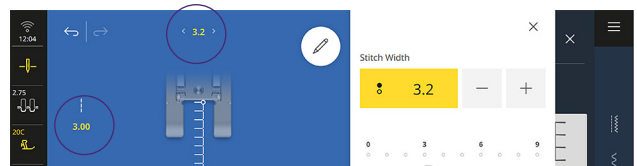

Fig. 7
2. Increase the stitch width to 3.2 mm (Fig. 7) and the stitch length to 3.0 mm.